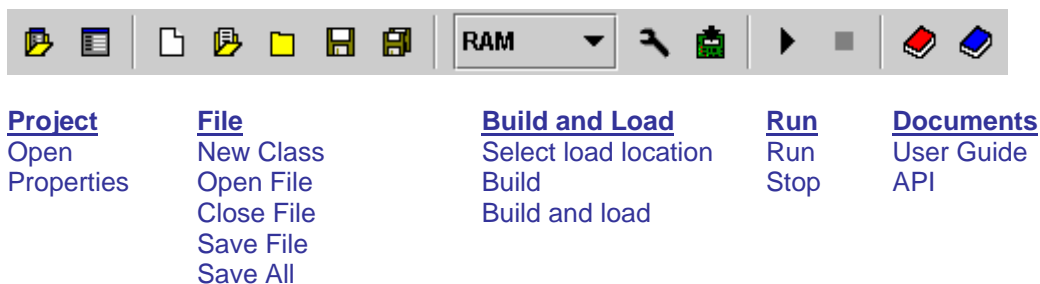

Figure 3 - RoboJDE Tool Bar
1. Using the RoboJDE GUI, click the Open Project button (see Figure 3).
4. Click on the build and load button (see Figure 3). The program will be compiled, linked and loaded. The load program progress bar will display for several seconds.
5. Once the progress bar has disappeared, click on the run button (see Figure 3).
5. Choose where to load the program (RAM or FLASH) by selecting your desired load location on the tool bar (see Figure 3).
Figure 3 shows the RoboJDE tool bar. With the exception of the load location selector, the icons on the tool bar have the same function as the equivalent menu item (see *Using Menus*).
Detailed documentation of the class library is included with RoboJDE in standard Javadoc format. You can view this documentation in the web browser by clicking on the blue book icon in the RoboJDE user interface (see Figure 3).